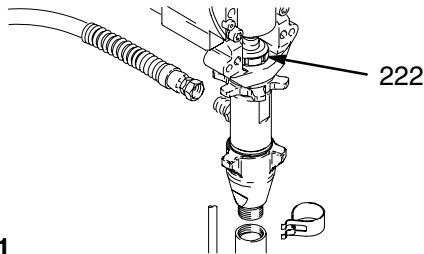

Fig. 11 7672B
1. Flush pump. Relieve pressure. Fig. 11. Cycle pump with piston rod (222) in its lowest position.
2. Fig. 11. Remove suction tube and hose.